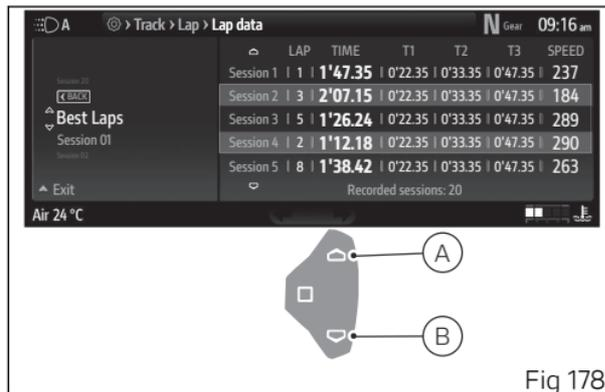

Fig 178
When accessing this function, the display shows "Best laps" and recorded sessions (up to 20) (Fig 178).
By selecting “Best Laps” (Fig 178), the data for the best time recorded in each session are displayed, showing the lap number with the respective time, intermediate T1, T2, T3, and the maximum speed reached. With the buttons (A) and (B) (Fig 178), it is possible to scroll through the list of best laps.